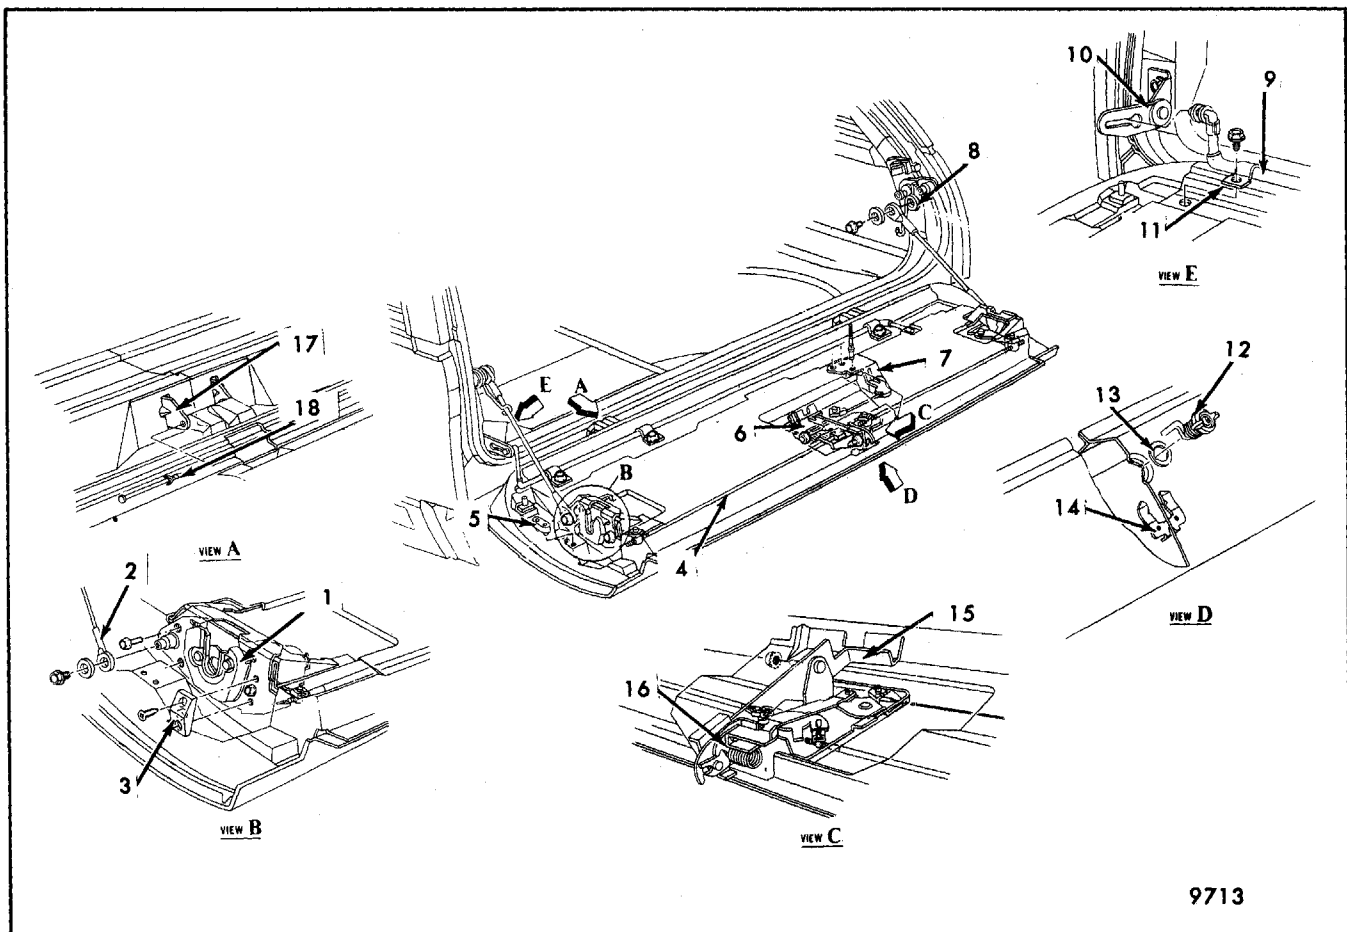

Fig. 7-104 - A-35 Tailgate Hardware
4. Mark location of and remove nuts securing assembly to inner panel and remove from tailgate (Fig. 7-104).
2. Working through access hole, remove lock cylinder retainer (Fig. 7-104).
4. Remove lock assembly through access hole in tailgate inner panel (Fig. 7-104).